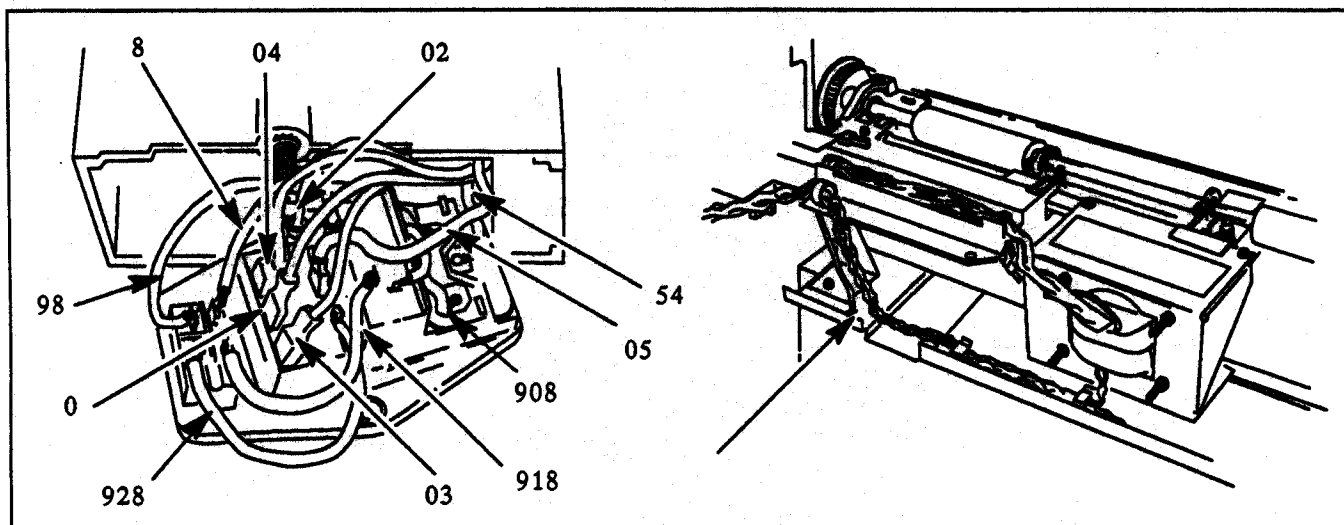

Figure 6-32. Ac Power Module Removal
- h. Note the orientation of the primary lead hook up to the power module. Disconnect the transformer primary leads from the ac power module. See Figure 6-32.
- i. Remove the  $\frac{7}{32}$  in. nut securing the ground wire from the power module to the chassis. See Figure 6-32.